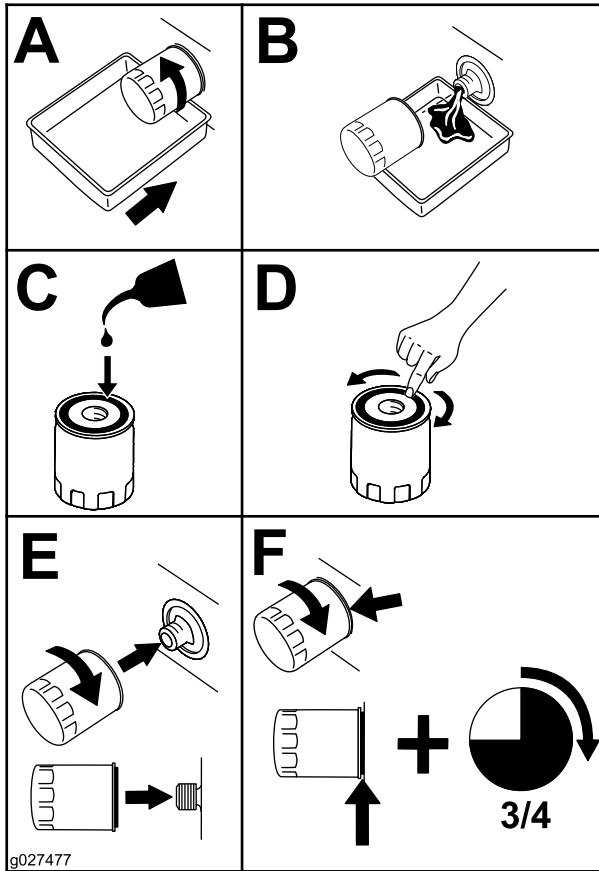

Figure 43
2. Change the engine-oil filter (Figure 43).